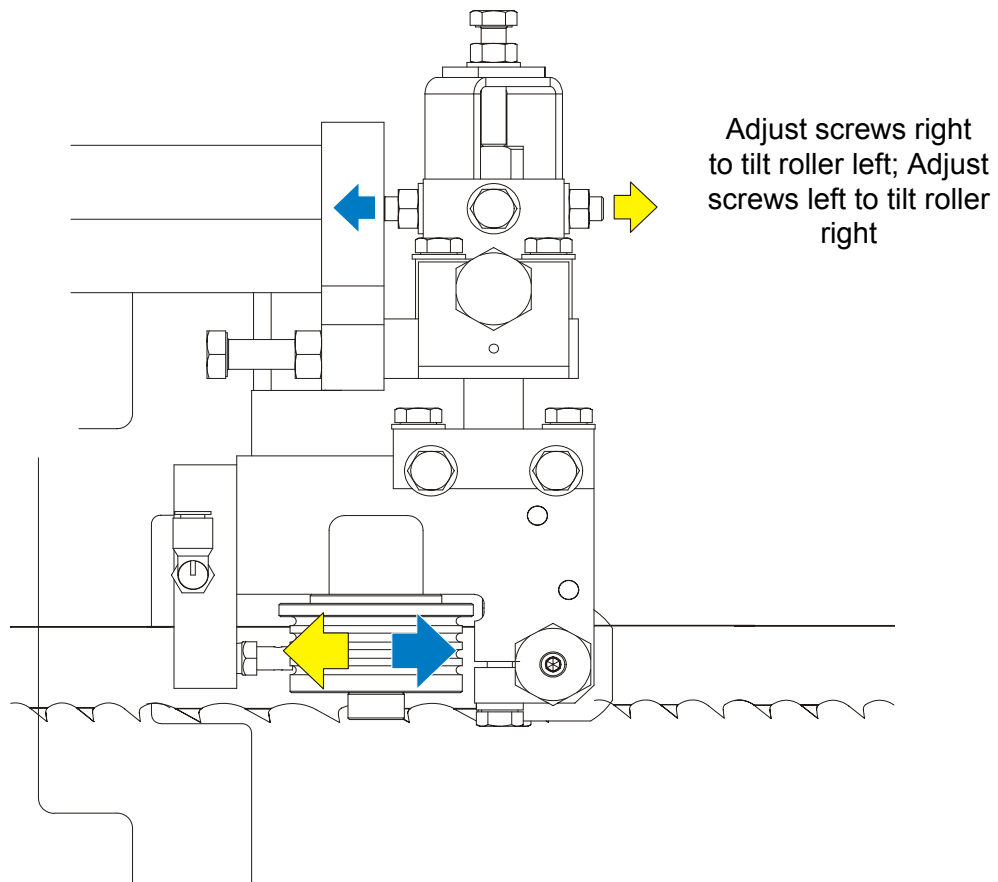

FIG. 7-11
**See Figure 7-11.** Loosen the jam nuts on the horizontal tilt adjustment screws. To tilt the roller left, loosen the right screw and tighten left screw. To tilt the roller right, loosen the left screw and tighten the right screw. Tighten the jam nuts and recheck the tilt of the blade.